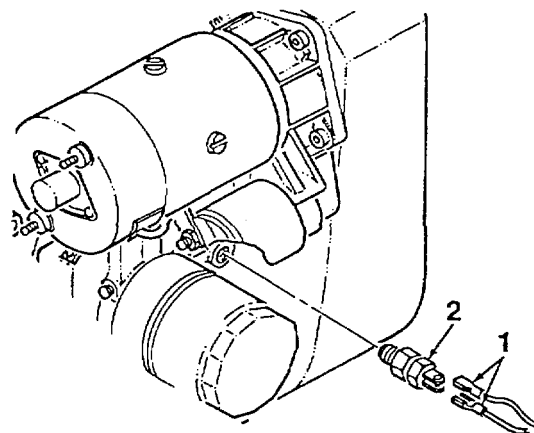

Figure 4-42. Oil Pressure Switch
2. Disconnect electrical leads (1, Figure 4-42) from oil pressure switch (2).
3. Unscrew oil pressure switch (2) from engine oil cover.
1. Install oil pressure switch (2, Figure 4-42) into engine oil cover.
2. Connect electrical leads (1) to oil pressure switch (2).